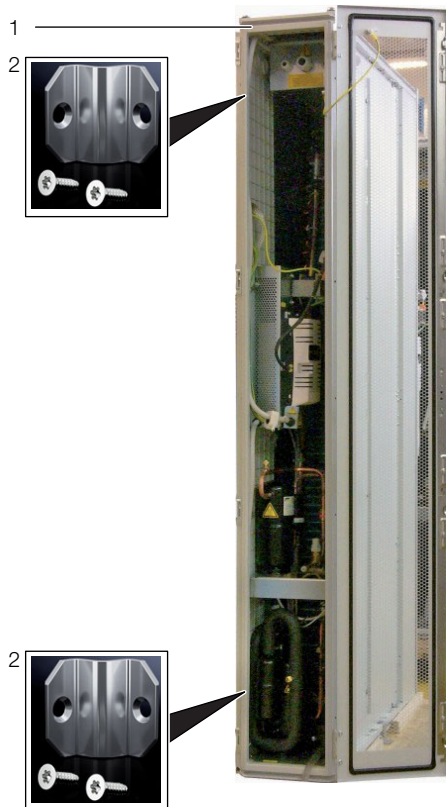

Fig. 15: LCP Rack DX – rear
- Using the corresponding assembly screws, fasten two baying connectors each (fig.15, item 2) onto the attachment points provided in the mounting strips on the front and rear of the LCP DX (fig.15, item 1).